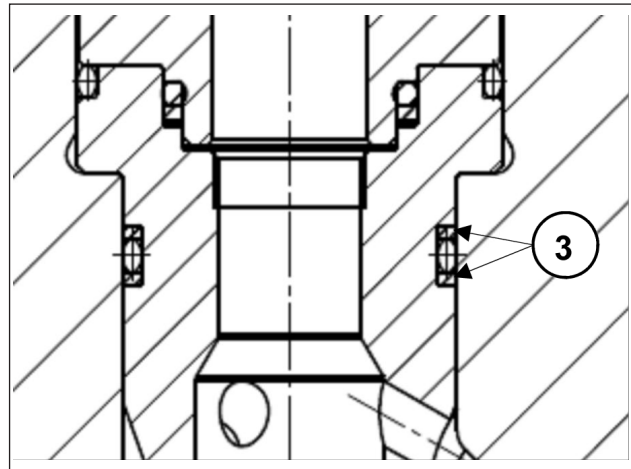

Fig. 28
- 2 **Insert the suction and outlet valve units with their bushes, checking that they are fully inserted in the head seat. Take special care not to damage the anti-extrusion rings on the bushes (Fig. 28, pos. ③). For correct positioning and adjustment of rings in their respective seats:**